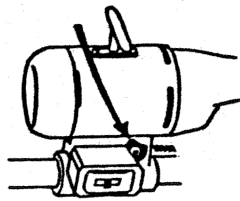

Fig. 17
3. To balance weight of motor, the friction clutch should be adjusted Fig. 17.